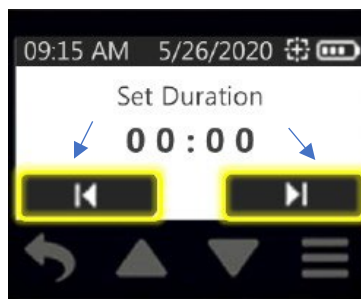

Figure 19. Left/Right and Up/Down Buttons
4. Hour digit 1 will flash. Touch up/down arrow buttons to increment/decrement hour. Touch right arrow to advance to hour digit 2 (will flash) and up/down arrow buttons to adjust hour digit 2. Repeat through minutes (Figure 19).